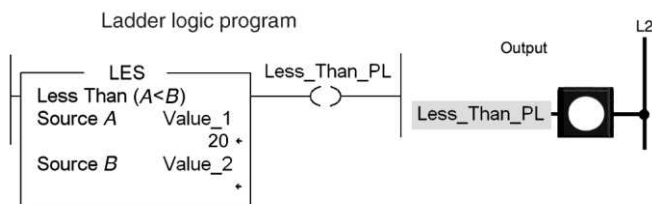

Figure 15-46 LES instruction rung for question 7.
7. For the LES instruction rung shown in Figure 15-46, what Value_2 would 7. _____ make the instruction logically true?